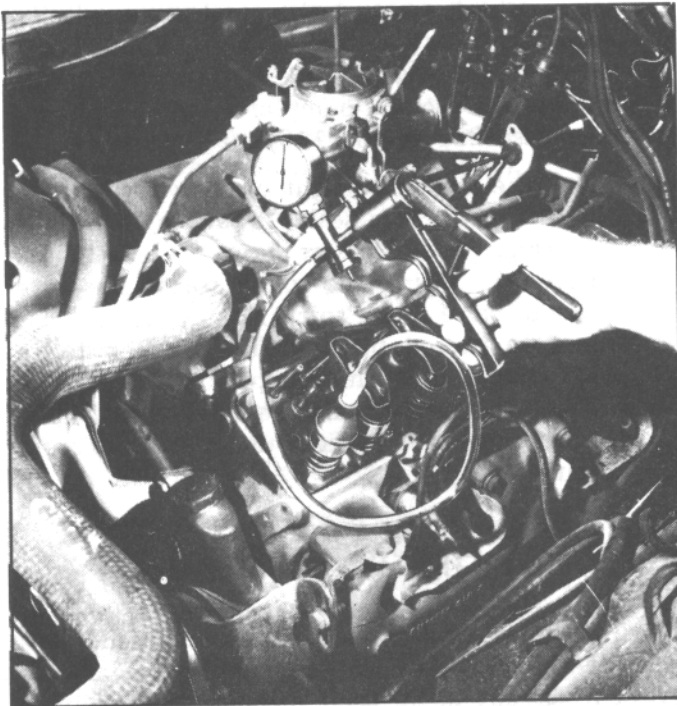

Fig. 110. Checking Valve Stem Oil Seals
4. On In-Line 292 CID, 307 and 350 CID V-8 engines check each valve stem oil seal by placing Valve Seal Leak Detector (tool J-23994) over the end of the valve stem and against the cap. Operate the vacuum pump and make sure no air leaks past the seal (Fig. 110).